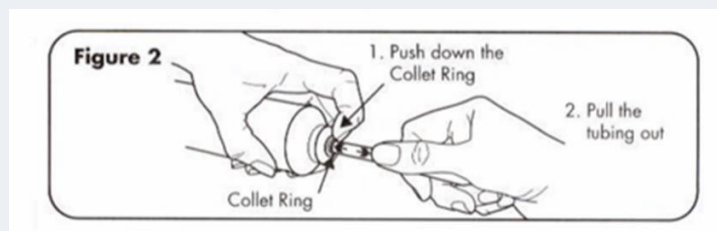

Figure 3
3. Cut the tubing using a tube cutter – ensure that the edges of the cut tube are clean and free from sharp edges or burrs (use steel wool or a file if required on copper tubing). Do not cut tubing on an **angle** as this may cause the unit to leak during service. See figure 3. Remove protective film from filter & Remove red clip from both ends of filter.
See figure 3.